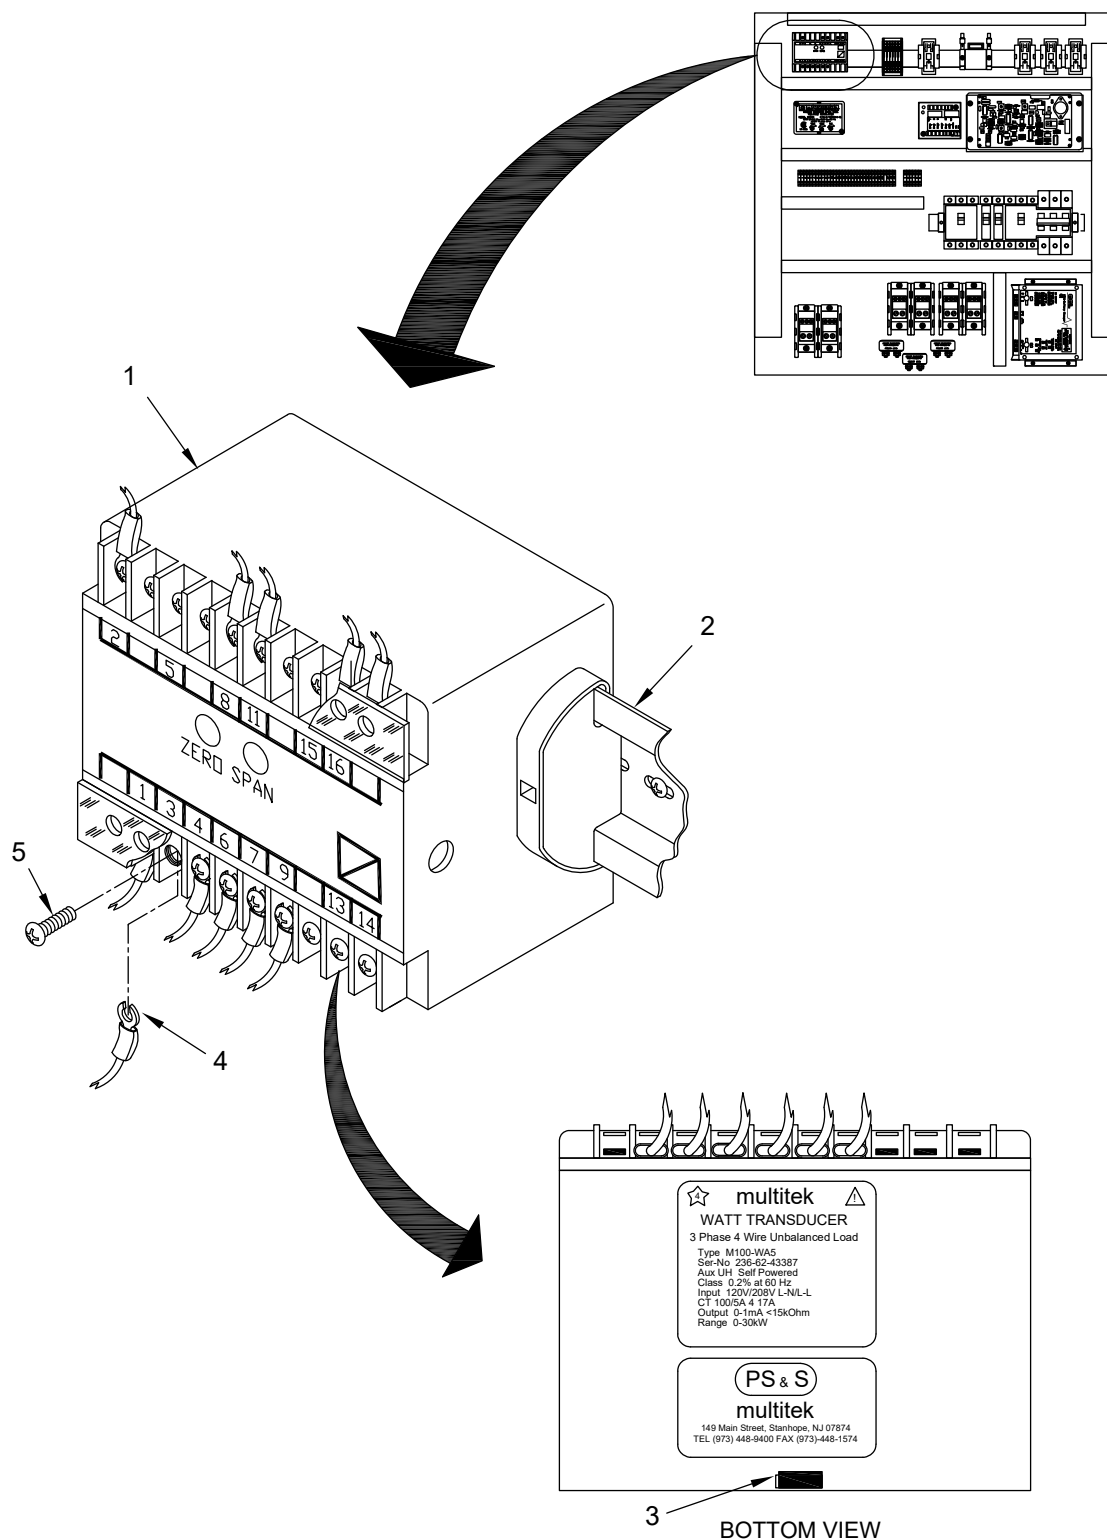

Figure 1. Transducer Removal/Replacement.
4. Loosen but do not remove terminal screws (Figure 1, Item 5) on transducer (Figure 1, Item 1).
5. Mark and disconnect electrical terminals (Figure 1, Item 4) from transducer (Figure 1, Item 1).
6. Remove strap ties securing transducer (Figure 1, Item 1) to mounting strip (Figure 1, Item 2).
7. Release locking tab (Figure 1, Item 3) and remove transducer (Figure 1, Item 1) from mounting strip (Figure 1, Item 2).
1. Install transducer (Figure 1, Item 1) onto mounting strip (Figure 1, Item 2) and secure locking tab (Figure 1, Item 3).
2. Connect electrical terminals (Figure 1, Item 4) to transducer (Figure 1, Item 1) and tighten terminal screws (Figure 1, Item 5).
3. Secure transducer (Figure 1, Item 1) to mounting strip (Figure 1, Item 2) using strap ties.
5. Connect all cables to power distribution panel (Figure 1, Item 1).
6. Connect negative terminal to battery (see WP 0056). Start Genset (Figure 1, Item 1) in accordance with Genset Start Procedure (WP 0005) of this TM.